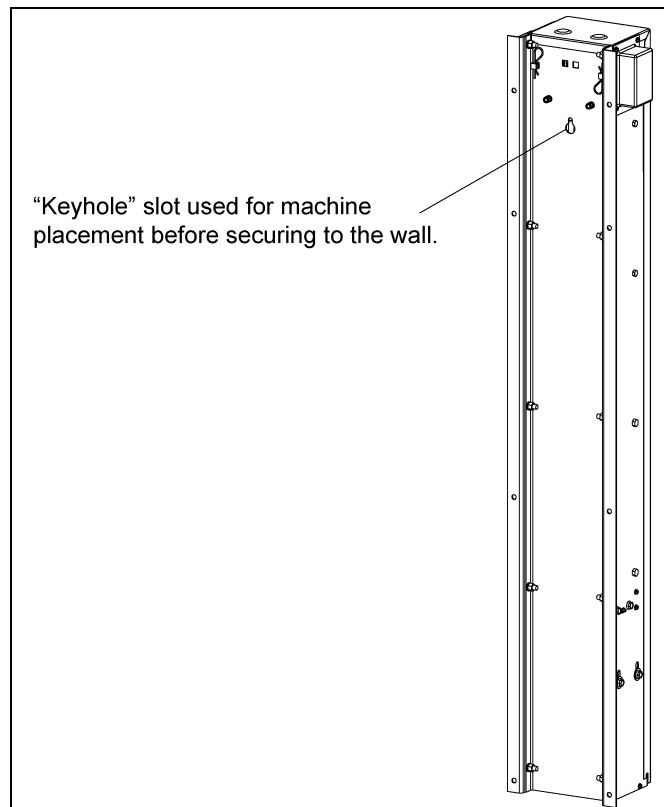

Figure 3B
4. Using the "keyhole" slot in the back of the Curtain Controller, hang the machine on the 3" lag bolt. (See Figure 3B.) **NOTE:** The 3" lag bolt should only be used to hang the machine to the wall. Do not attempt to operate the machine until it is fully secured.